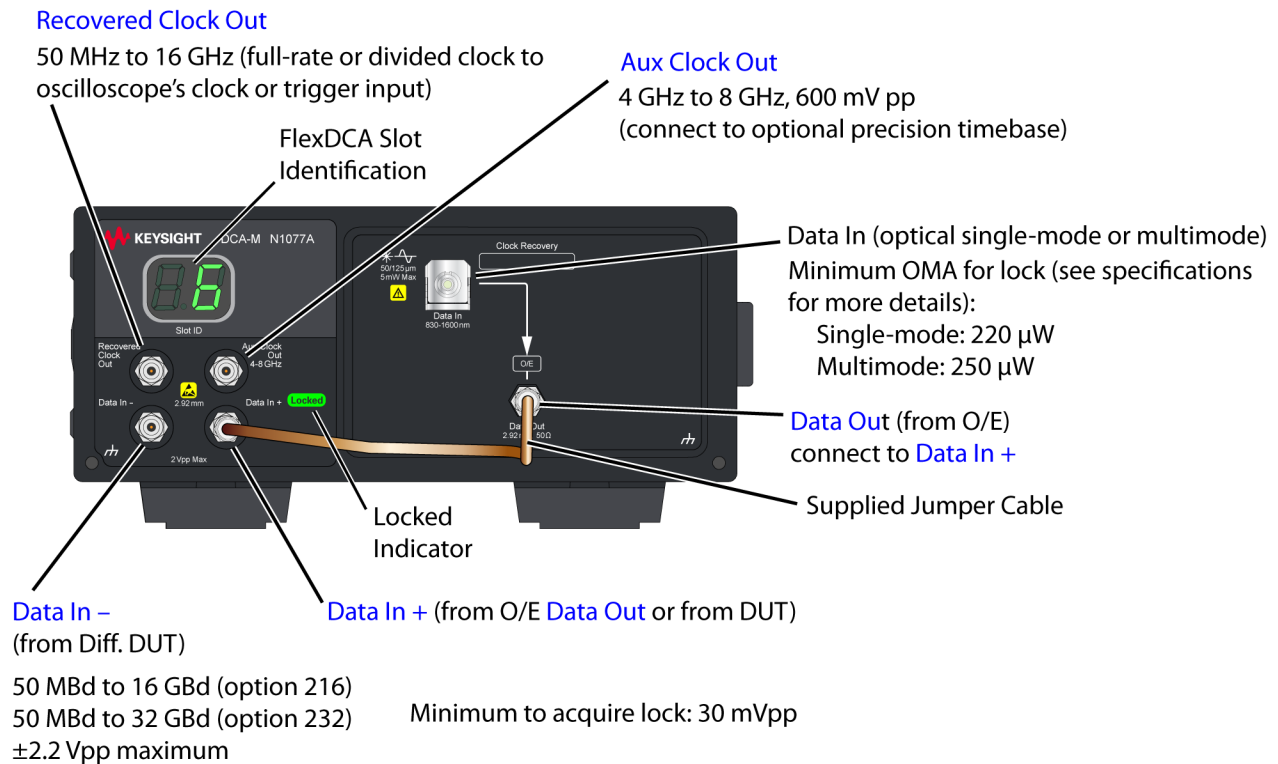
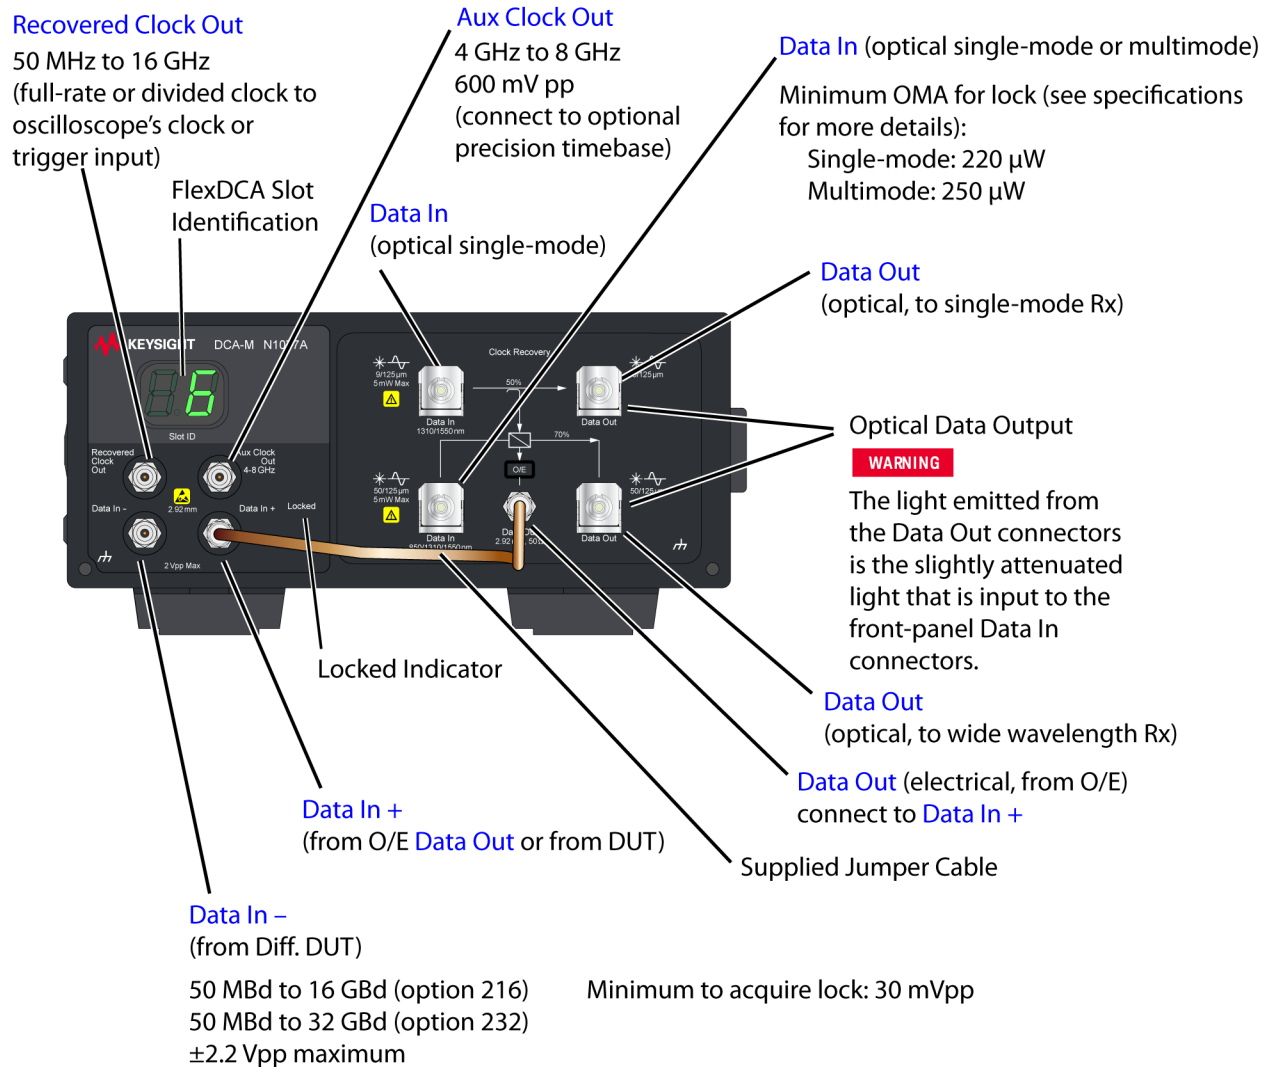

Figure 30. N1077A-SXT Front-Panel Connectors
Figure 31. N1077A-SMS Front-Panel Connectors
*Figure 30 on page 72* and *Figure 31 on page 73* shows the N1077A-SXT and N1077A-SMS module front-panels. Option SXT modules do not have an internal optical splitter and have one multimode optical input. Option SMS models include an internal optical splitter and both single-mode and multimode optical inputs and outputs. The optical internal splitter provides a slightly attenuated input signal at the optical **Data Out** connectors. This output can be used for input to a receiver module or other test equipment.
1. Confirm that the input signal meets the baud rate and amplitude requirements shown in *Figure 31 on page 73*. In this procedure, the following assumptions are made for simplicity. You can change these parameters to any acceptable values.